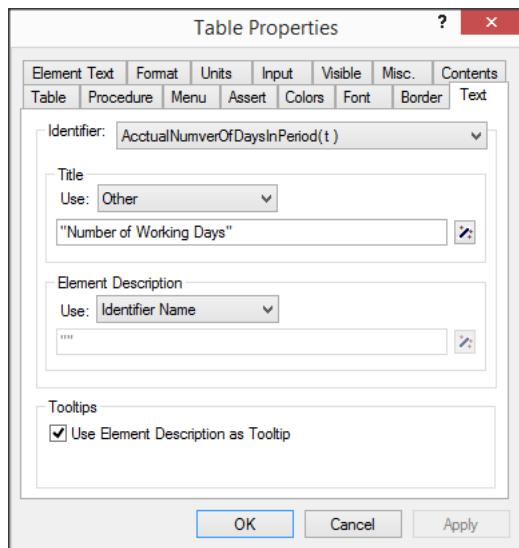

Figure 11.20: The **Text** tab of the **Table Properties** dialog box
- ▶ specify "Number of working days" (in quotes) as the new title (see Figure 11.20), and